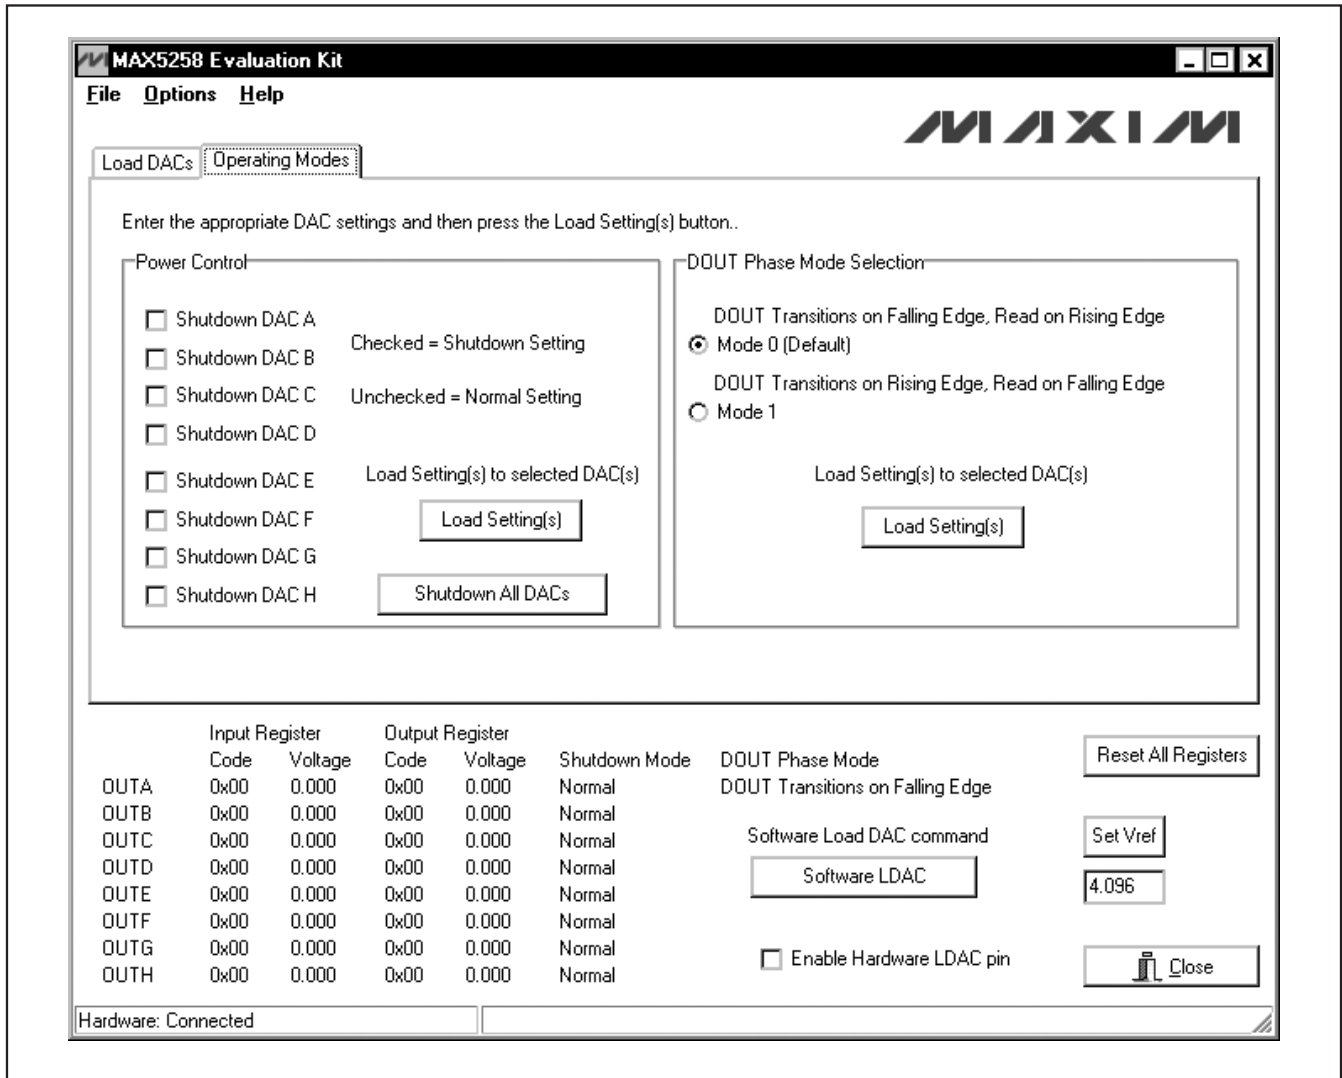

Figure 2. MAX5258 EV Kit Software Main Window (Operating Modes Tab)
**Operating Modes** tab sheet (shown in Figure 2) controls all of the DAC modes of the MAX5258. The **Load Setting(s)** buttons must be pressed to write the corresponding mode settings to the DAC(s).